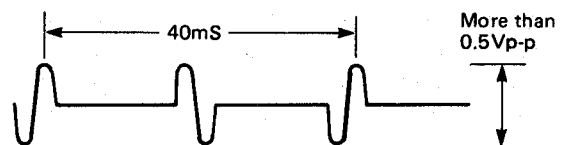

Figure 85.
2. Observe the output of TP-702 on oscilloscope, and check its values are as shown in Fig. 85.